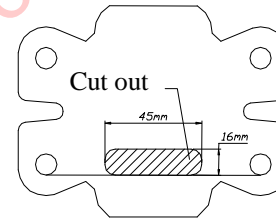

Fig. 2
3. In rear slice make elongated holes according to figure 2.
4. To maked holes put jibs with nuts (pos. 4).
5. To chassis members put main bar of the towing hitch (pos. 1) and fix by bolts M10x35mm (pos. 9) with jibs.
6. Through holes (pos. A) and holes in rear slice twist bolts M10x35mm (pos. 9) using big washers (pos. 6).